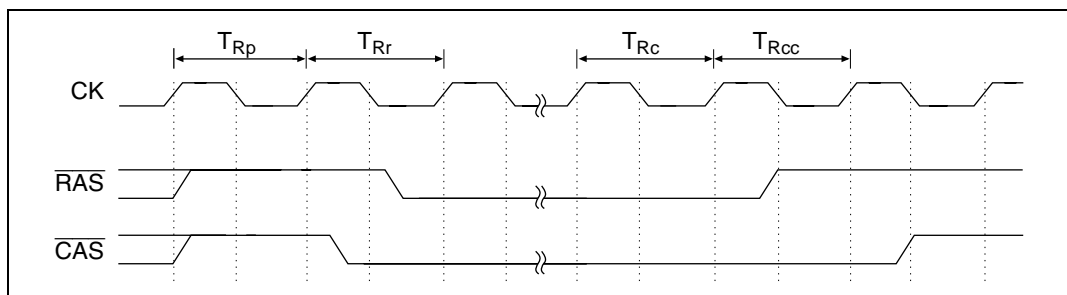

Figure 8.31 Output Timing for Self-Refresh Signal
Self-Refresh Mode: Some DRAMs have a self-refresh mode (battery back-up mode). This is a type of a standby mode in which the refresh timing and refresh addresses are generated inside the DRAM chip. When the RFSHE and RMODE bits in RCR are both set to 1, the DRAM will enter self-refresh mode when the $\overline{\text{CAS}}$ and $\overline{\text{RAS}}$ signals are output as shown in figure 8.31. See sections 20.1.3 (3) and 20.2.3 (3), Bus Timing, for details. DRAM self-refresh mode is cleared when the RMODE bit in RCR is cleared to 0 (figure 8.31). The RFSHE bit should be left at 1 when this is done. Some DRAM vendors recommend that after exiting self-refresh mode, all row addresses should be refreshed again. This can be done using the BSC's CBR refresh function to set all row addresses for refresh in software.